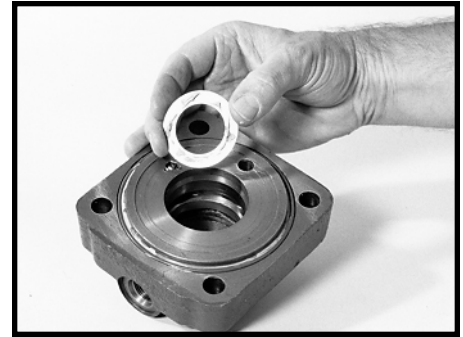

Figure 124
- 21. Apply a generous amount of clean grease to one thrust washer (11). Place the valve housing, exterior side down, on a flat surface and place the thrust washer into the valve housing (9), making sure to center the washer. SEE FIGURE 124.